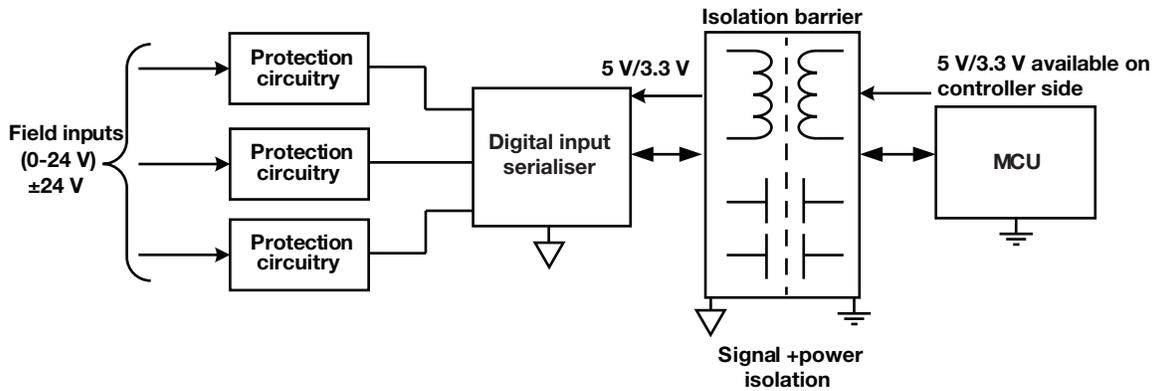

Figure 5. PLC digital input module with signal and power isolation.
- **PLCs.** PLCs have been an integral part of factory automation and industrial process control. PLCs use digital and analog input and output modules to interface to sensors, actuators and other equipment on the factory floor. **Figure 5** shows one possible implementation of a PLC digital input module.